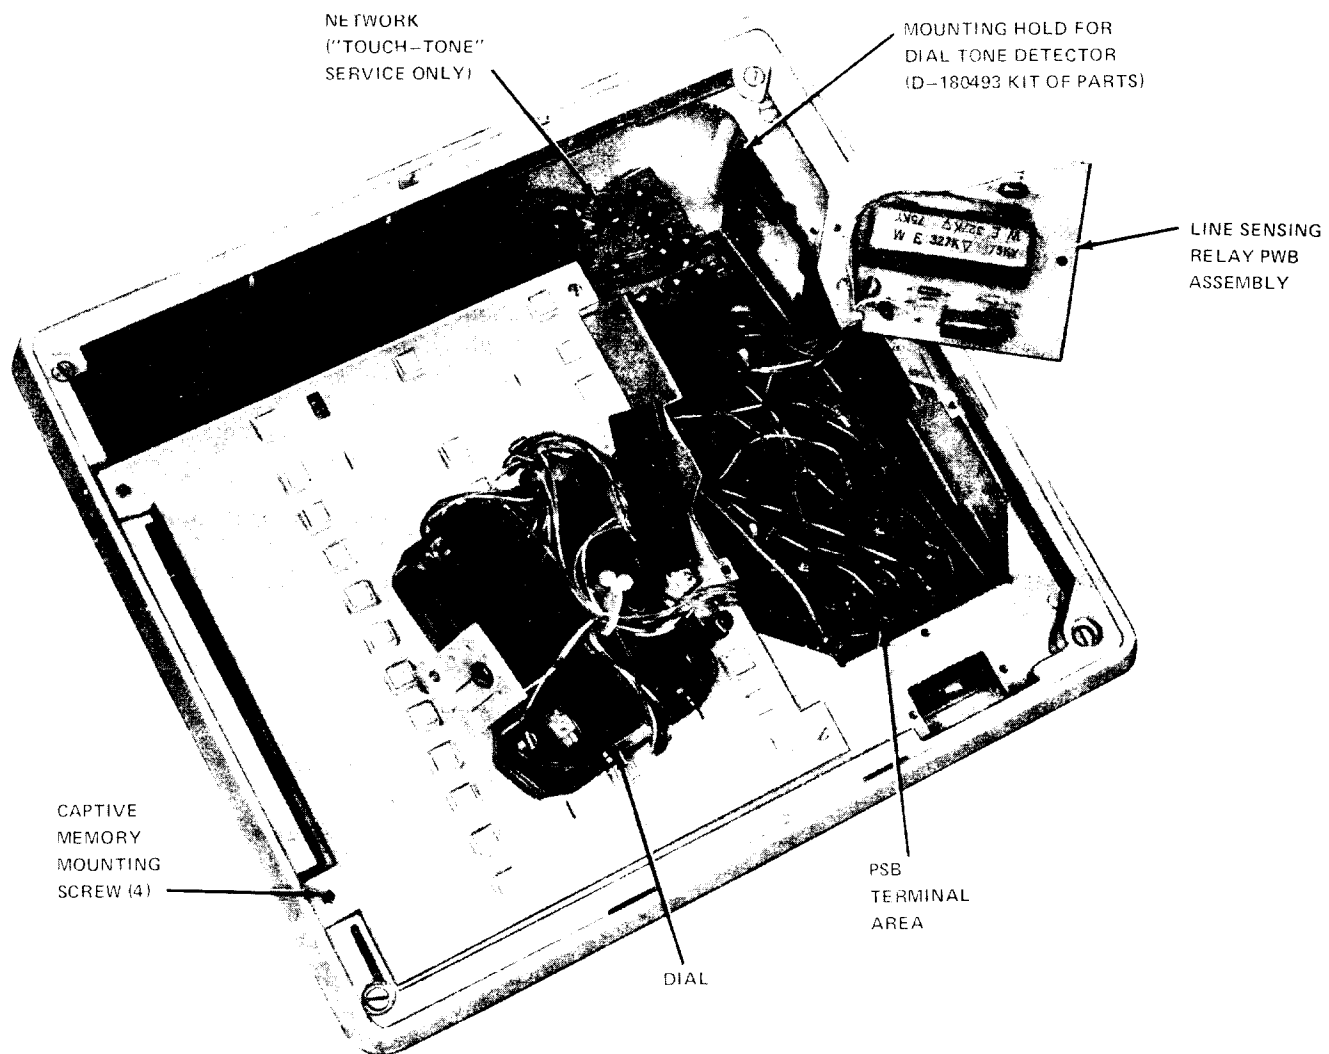

Fig. 3—2870B1M Dial, View to Show Terminal Area
(1) Remove the housing (paragraph 3.13), and access PSB terminal field (paragraph 3.10).
(2) Insert the dial tone detector board assembly from the back of the dial, so that the two tabs on the board assembly fit into the slots in the chassis (Fig. 3).
(3) Insert the self-threading screw through the side of the chassis to secure the board in position.
- (4) Connect the dial tone detector as shown in Table B.
- (4) Loosen the four captive memory mounting screws (Fig. 3).